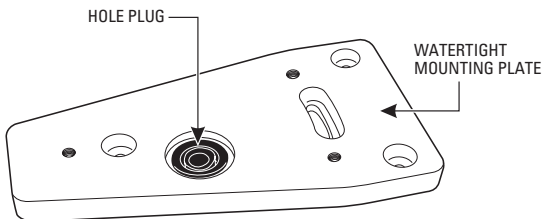

Figure 4. Install Hole Plug
1. **Outdoor Installation Only** – Insert the hole plug that is supplied into the large hole in the water-tight mounting plate (refer to Figure 4). Then fasten the mounting plate to the mounting surface with #10 stainless steel screws (not provided) of the appropriate length.